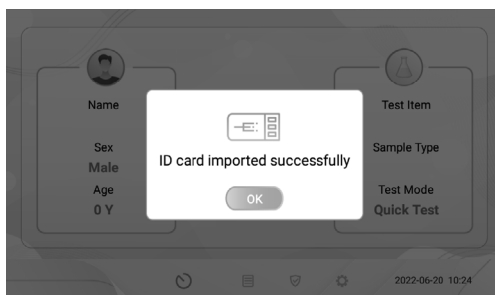

Fig. 5.5.3 Import is successful
Step 2 The ID card information import interface will be displayed, as shown in Fig. 5.5.3. Touch “OK”.